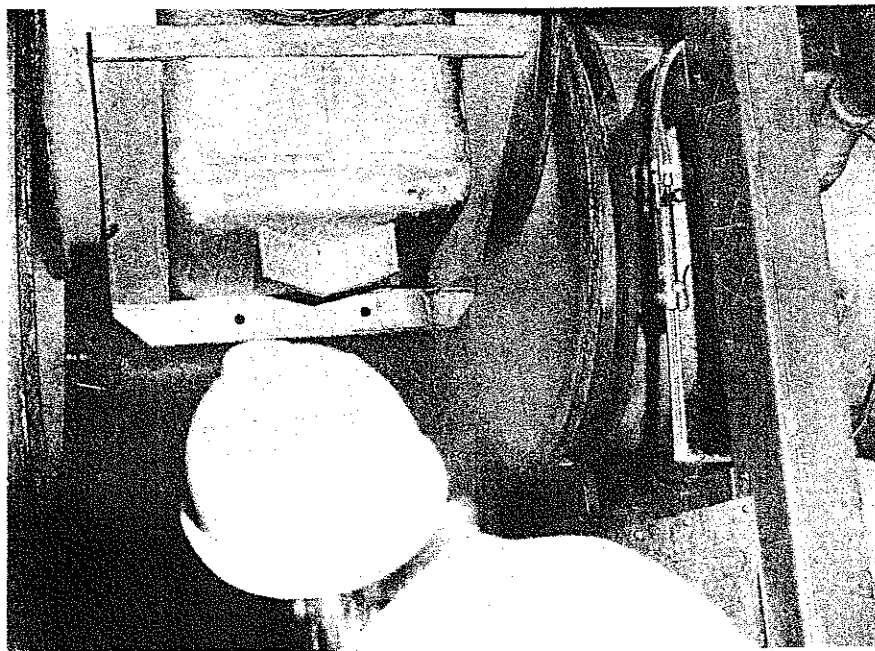

FIG. 10 CLEAR PG LINE
18. Tighten the expansion joint bolts to provide clearance between the PG line and the valve. Then raise the valve with the bay crane until it clears the plate on the valve platform. Keep the valve level while raising it clear of the PG line (Fig. 10).